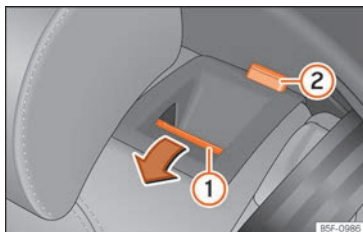

Fig. 152 On the rear seat backrest: release button ①; red mark ②.
- Press the unlock button » Fig. 152 ① forwards and at the same time fold the backrest down. The rear seat backrest is not engaged when the red marking of the button ② is visible.